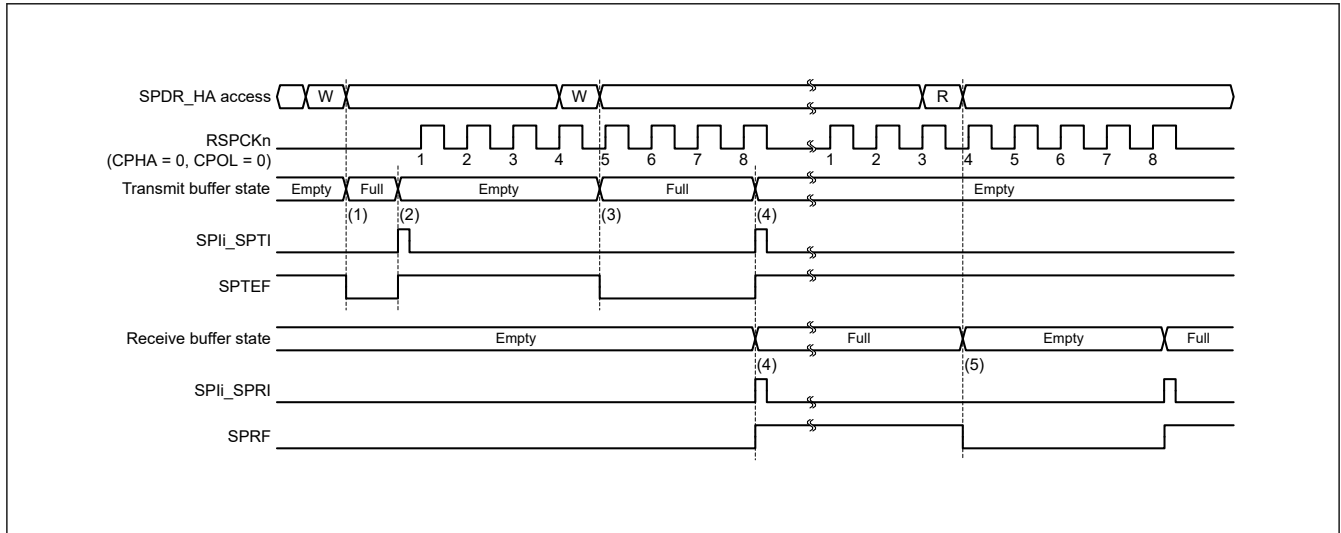
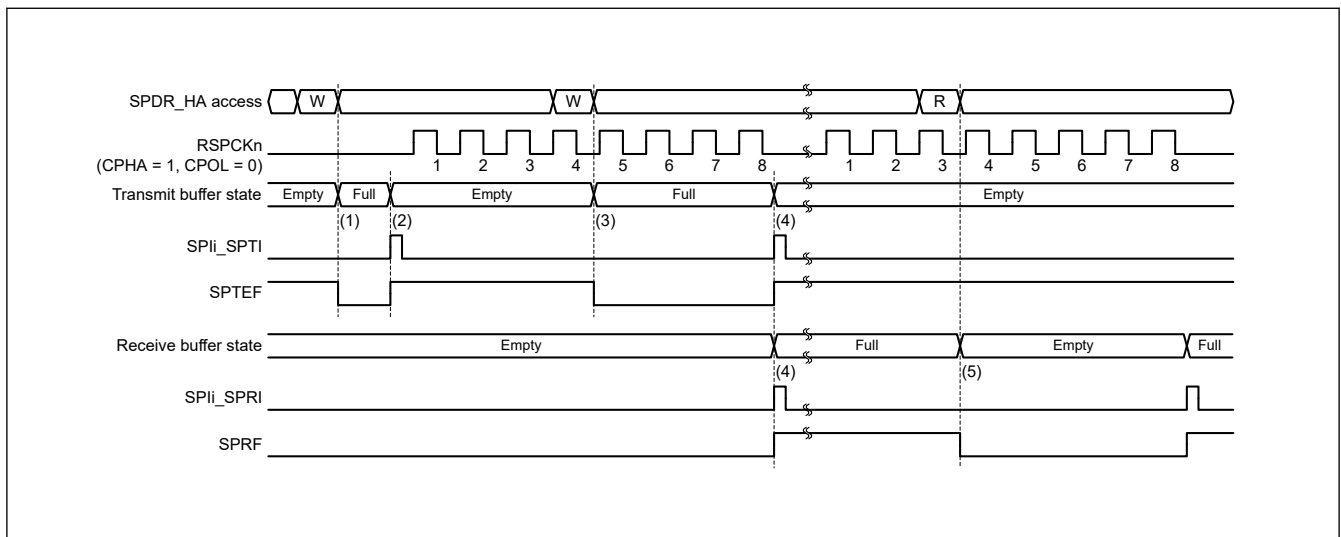

Figure 30.29 Operation example of the SPIi_SPTI and SPIi_SPRI interrupts when CPHA = 0 and CPOL = 0 in master mode
Figure 30.30 Operation example of the SPIi_SPTI and SPIi_SPRI interrupts when CPHA = 1 and CPOL = 0 in master mode
Figure 30.29 and Figure 30.30 show examples of operation of the transmit buffer empty interrupt (SPIi_SPTI) and the receive buffer full interrupt (SPIi_SPRI). The SPDR_HA register accesses shown in these figures indicate the conditions of access to the register, where W denotes a write cycle and R denotes a read cycle. In Figure 30.29, the SPI performs an 8-bit serial transfer when SPCR.TXMD bit is 0, the SPDCR.SPFC[1:0] bits are 00b, the SPCMDm.CPHA bit is 0, and the SPCMDm.CPOL bit is 0. In Figure 30.30, the SPI performs an 8-bit serial transfer when SPCR.TXMD bit is 0, the
The operation of the SPI at timings (1) to (5) in Figure 30.29 and Figure 30.30 is as follows: